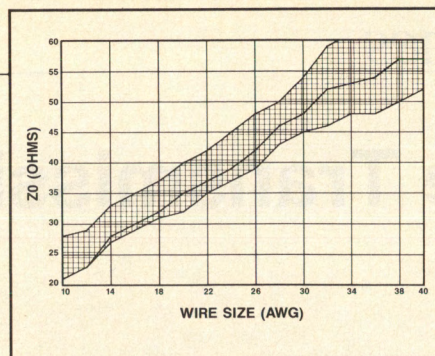

Figure 4. Measured and computed characteristic impedances of twisted-wire transmission lines.
The experimental data is presented in Figure 4 along with computed values for the particular wires used and computed values for nominal size single, heavy, and triple film wires having Phelps Dodge Poly-Thermaleze insulation ($\epsilon_r = 3.7$). The measured data match the computed values within the range of experimental error. The computed values also compare favorably with other empirical values (2).